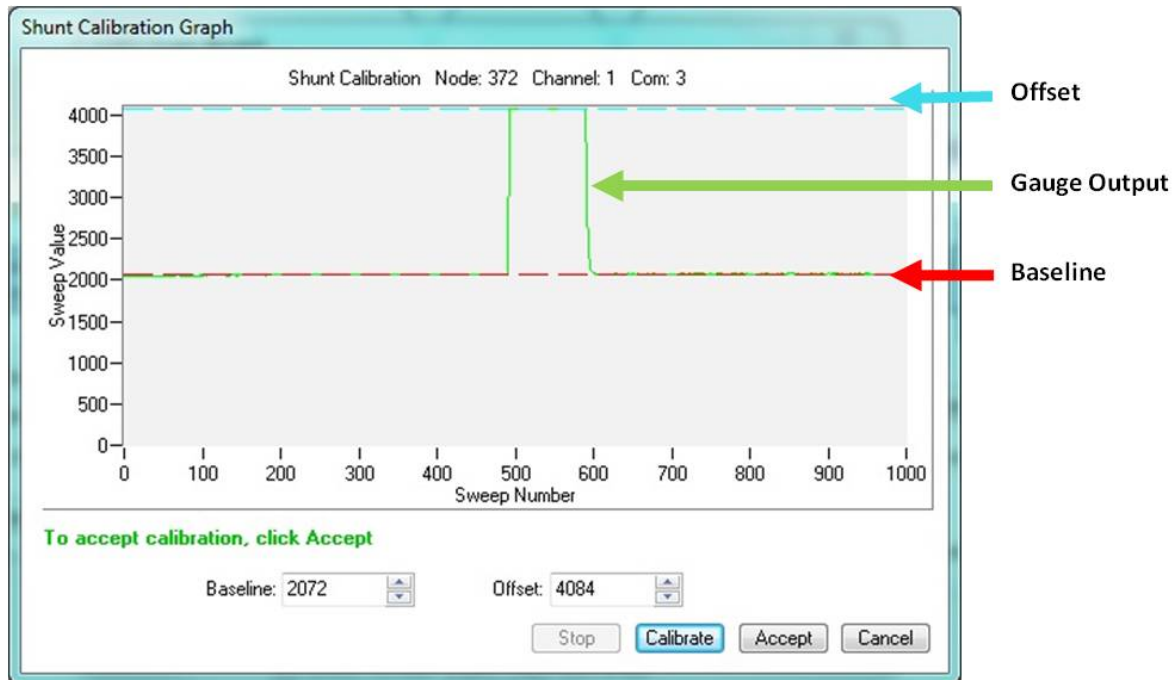

Figure 32 - Strain Gauge Calibration
12. Verify the calibration looks as shown in Figure 32 - Strain Gauge Calibration. The green line represents the output of the strain gauge. With no load applied it should sit near the Auto Balance baseline value, represented by the red dashed line. During calibration, a shunt resistance (selected on the Parameters page) is applied across the strain bridge, shown by the square pulse on the output. The Offset value, shown with the dashed blue line, is the average output value of the pulse and should sit across the top of the pulse. If the gauge has not had to time to equilibrate before sampling, or if varying environmental factors exist, spikes in the gauge output may occur and affect the Baseline and Offset values. If this occurs, the Baseline and Offset values can be adjusted to clip the spikes in the output values. Adjust them as needed, and select Accept when completed.